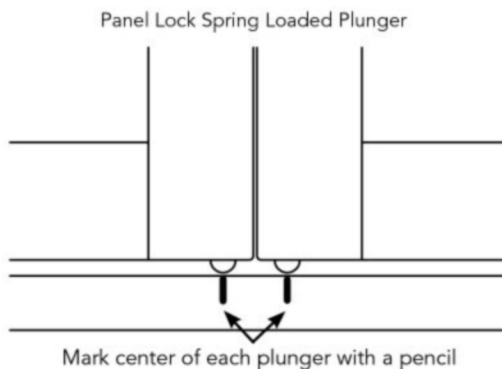

Fig. 9.1
- Once the shutter and panels have been installed, make a mark on the frame with a pencil to show where the center of the Panel Lock Plunger is located. (See Fig. 9.1)